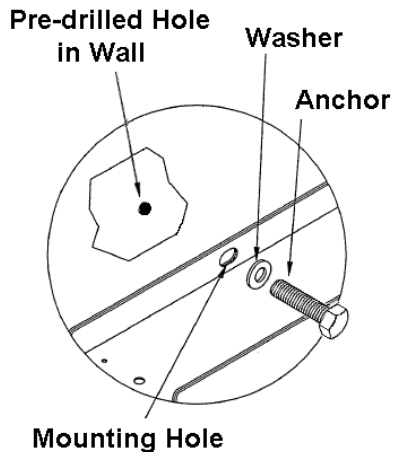

Figure 6: Wall Mounting
2. Secure the display to the wall by attaching mounting hardware through all holes on the side rear flanges of the display to a pre-drilled hole in the wall (**Figure 6**).